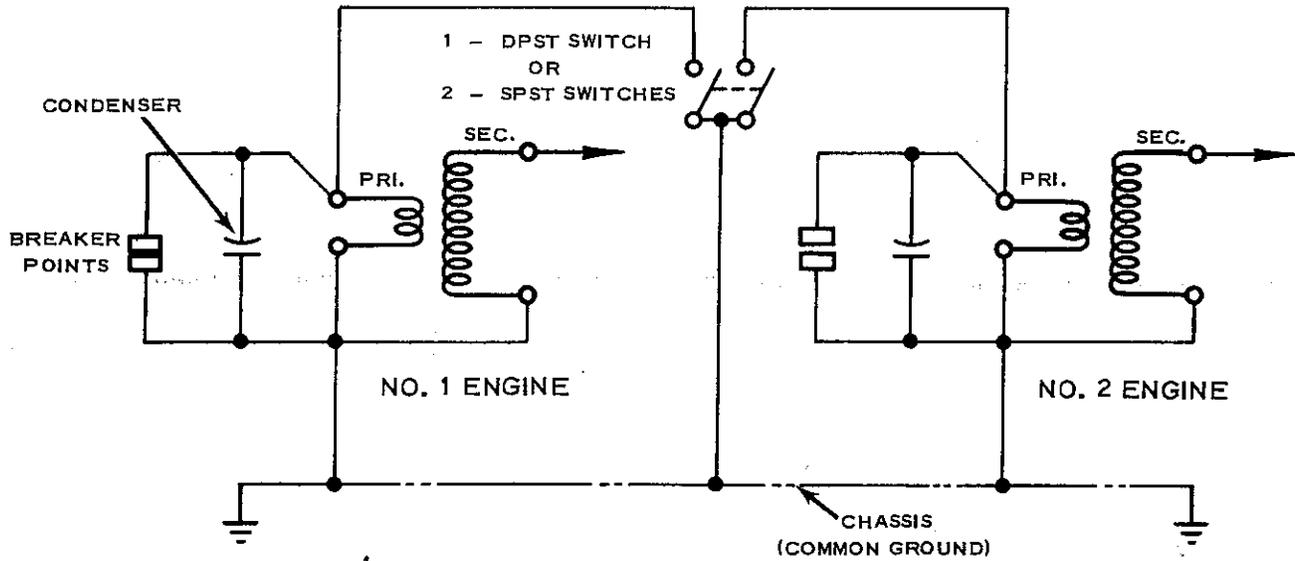

FIGURE 2 - Correctly wired shut-off switch (or switches).
C. Correct wiring is shown in Figure 2. Either a double-pole, single-throw (DPST) switch, or two single-pole, single-throw (SPST) switches should be used.